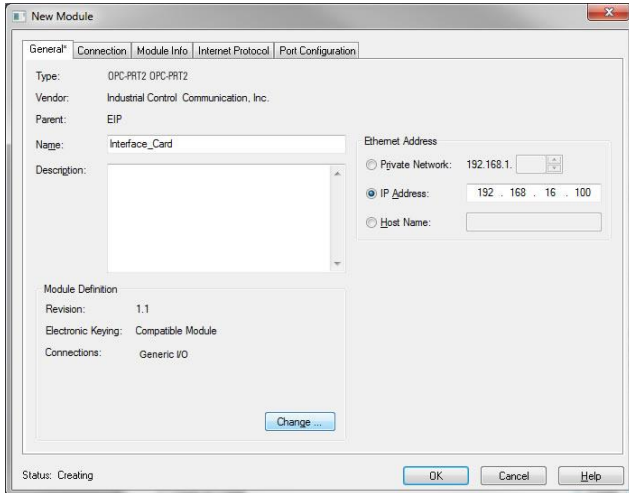

Figure 30: AOP Interface Card Module Properties
- 12) The "New Module" properties dialog box will open as shown in Figure 30.